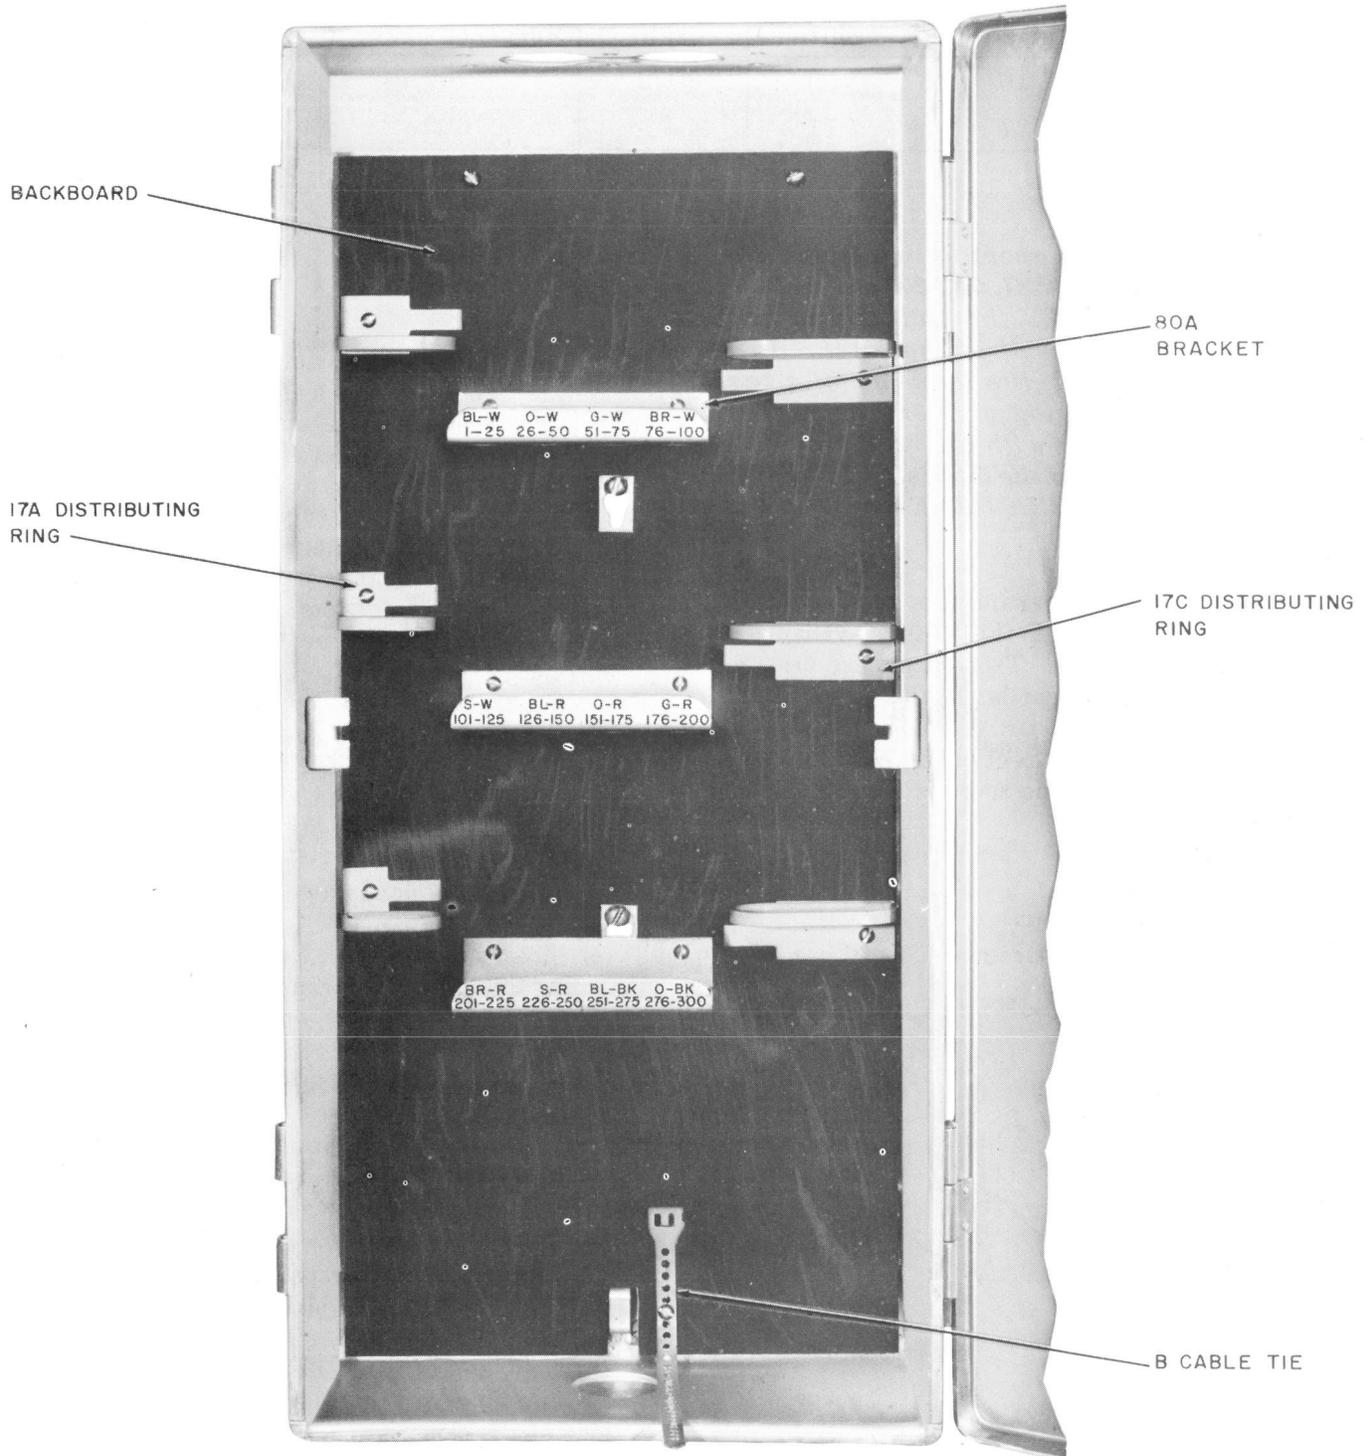

Fig. 13—5B2-300 Closure (Manufacture Discontinued)
7.02 The 5A2-200 and 5B2-300 closures (Fig. 13) were designed for use as control and access